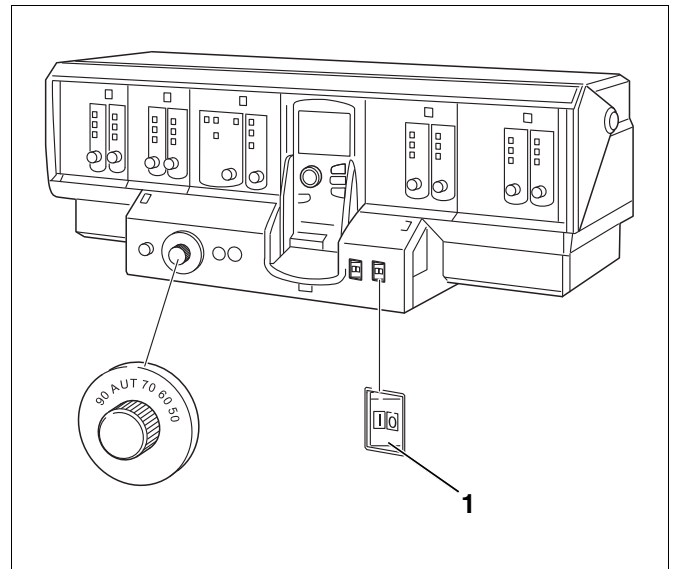

Fig. 70 Logamatic 4311 shown as example
- ▶ Put the main power switch (Fig. 70, [1]) on the control panel in position "0".